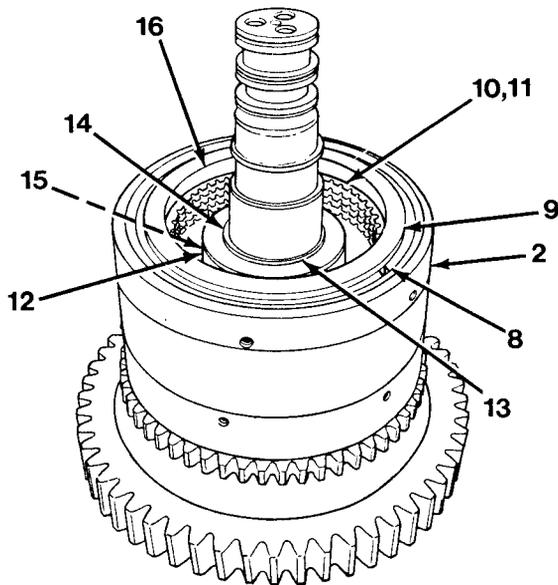

Figure 11-11
20. Install thrust washer (15), four springs (12) and snap ring retainer (14) in clutch shaft assembly (2, Figure 11-11).
21. Compress four springs (12) and hold down to install snap ring (13).
22. Install snap ring (13) on clutch shaft assembly (2).